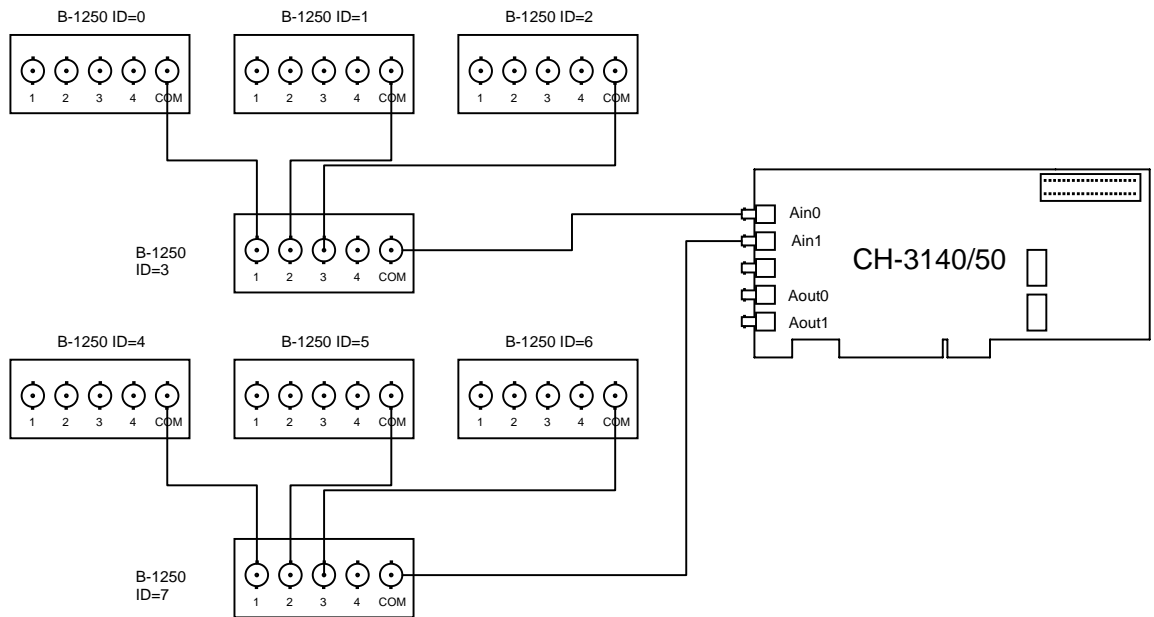
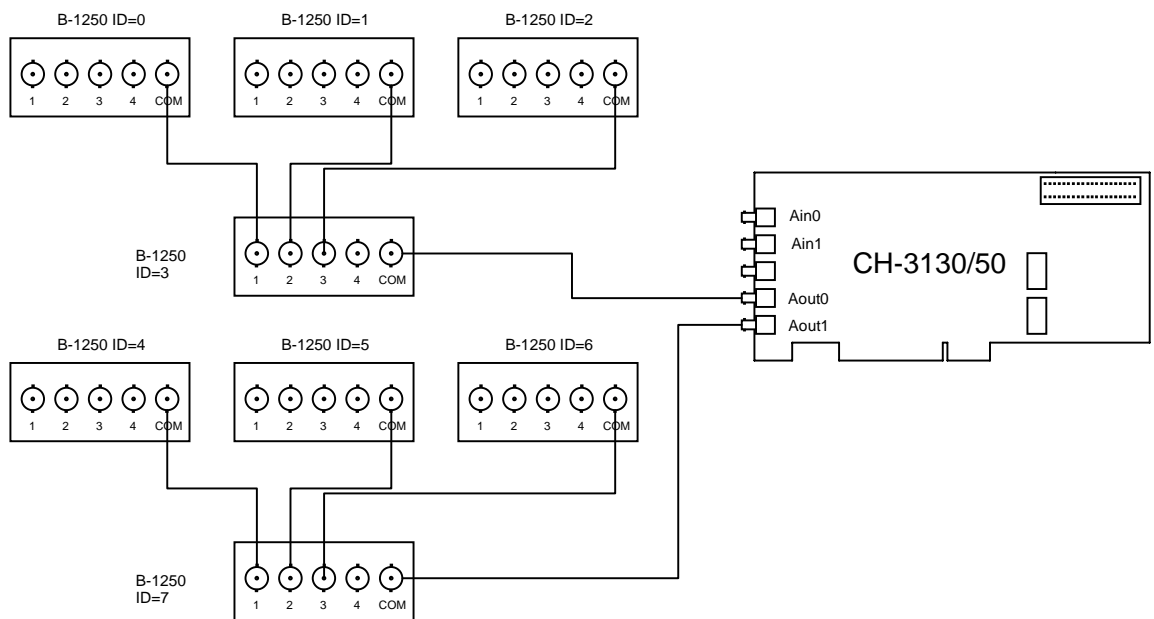
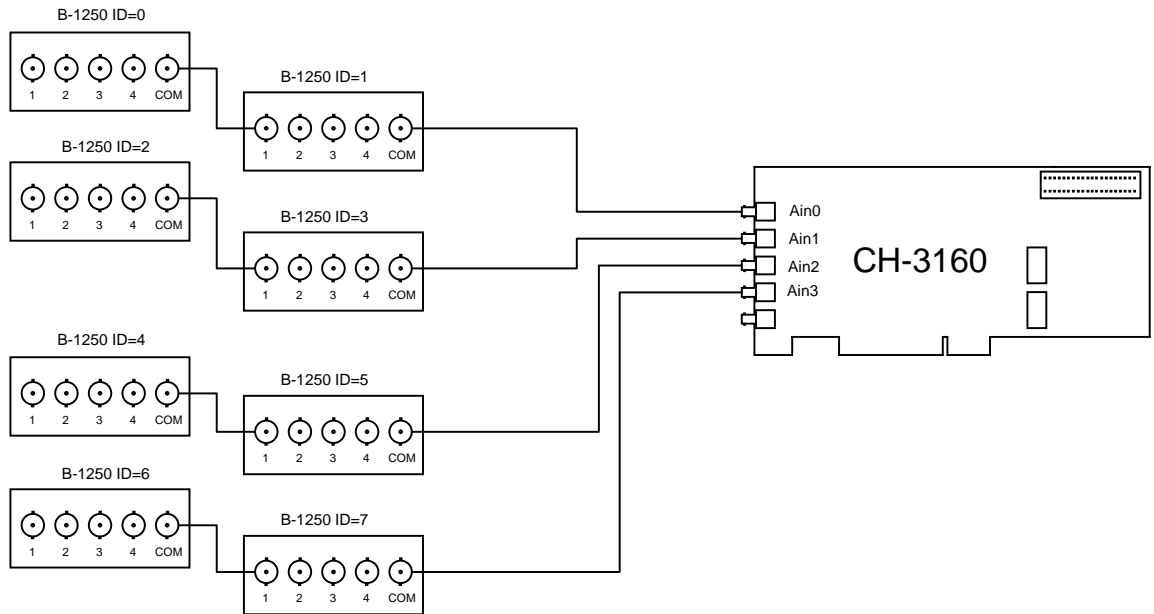

Figure 9-2 – CH-3140/50 Expansion to 26 Inputs Using Multiple B-1250
Figure 9-3 CH-3130/50 Expansion to 26 Outputs Using Multiple B-1250
Figure 9-4 CH-3160 Expansion to 28 Inputs Using Multiple B-1250
Up to eight B-1250 multiplexers can be controlled by one CH board. In the tree configuration shown in figure 9-2, this allows up to 26 inputs to be muxed into the CH-3150 board. Note also that the B-1250 is bi-directional. The same type of tree configuration allows expansion for driving up to 26 outputs from a CH-3150 as shown in figure 9-3. With a CH-3160 board, up to 28 inputs can be muxed into the CH board as shown in figure 9-4.
- Connect a SINGLE B-1250 to the CH board as shown in either figure 9-4 or 9-5 depending upon whether a B-1050 DIO breakout board is used. The cable MUST be connected to the DB-9 connector on the B-1250 labeled “Control In”.